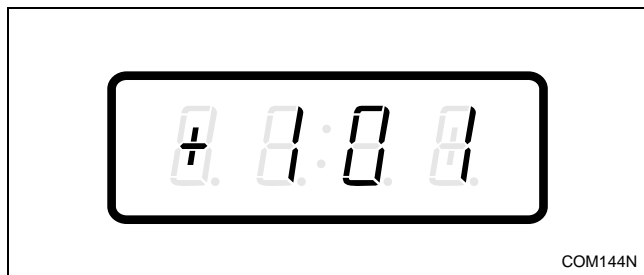

Figure 169
3. Press the DELICATES (+) or the COLD (-) keypad to scroll through the programmable options until “+101” appears in the VFD. Refer to *Figure 169*.